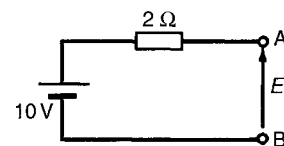

Figure 13.29
- (i) The open-circuit voltage, E , across terminals AB in Fig. 13.29 is equal to 10 V, since no current flows through the 2Ω resistor and hence no voltage drop occurs.